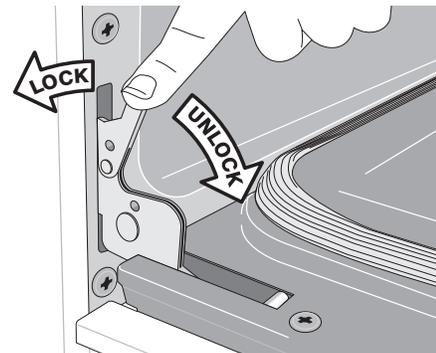

Figure 18: Door hinge Locks
2. Pull the door hinge locks on both left and right side of the door down from the oven frame completely towards the oven door (See Figure 18). A tool such as a small flat-blade screwdriver may be required.
4. Push the door hinge locks up towards and into the oven frame on both left and right oven door hinges to the locked position (Figure 18).